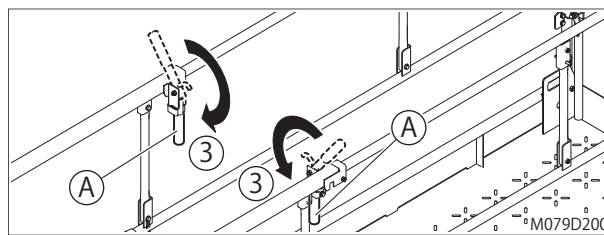

fig. 8-6
- (5) Turn the handles (fig. 8-6, A) to their original positions. The extension deck is now locked. (fig. 8-6, 3)